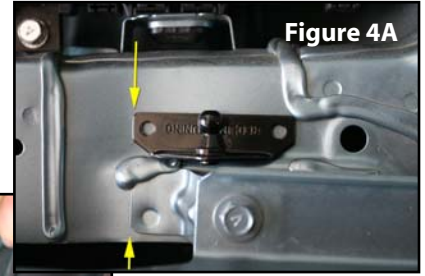

Figure 4A
A. Verifying the measurement from Step 3, centerline of bracket should be 3/8" to left of the fender bolt. You will need to view the mounting location directly from the top as shown in **Figure 4A**. The bracket should sit with the left edge aligned with the metal lip shown in the photo and the ball-stud pointing inward toward the engine.